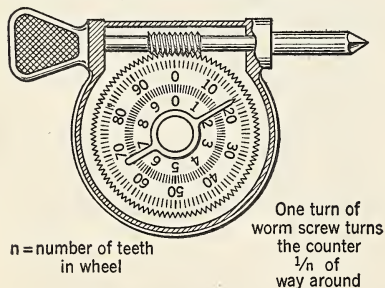

FIG. 285. The worm gear can be used as a speed counter.
4. Explain how the speed counter shown in Fig. 285 can be used to determine the number of revolutions per minute.